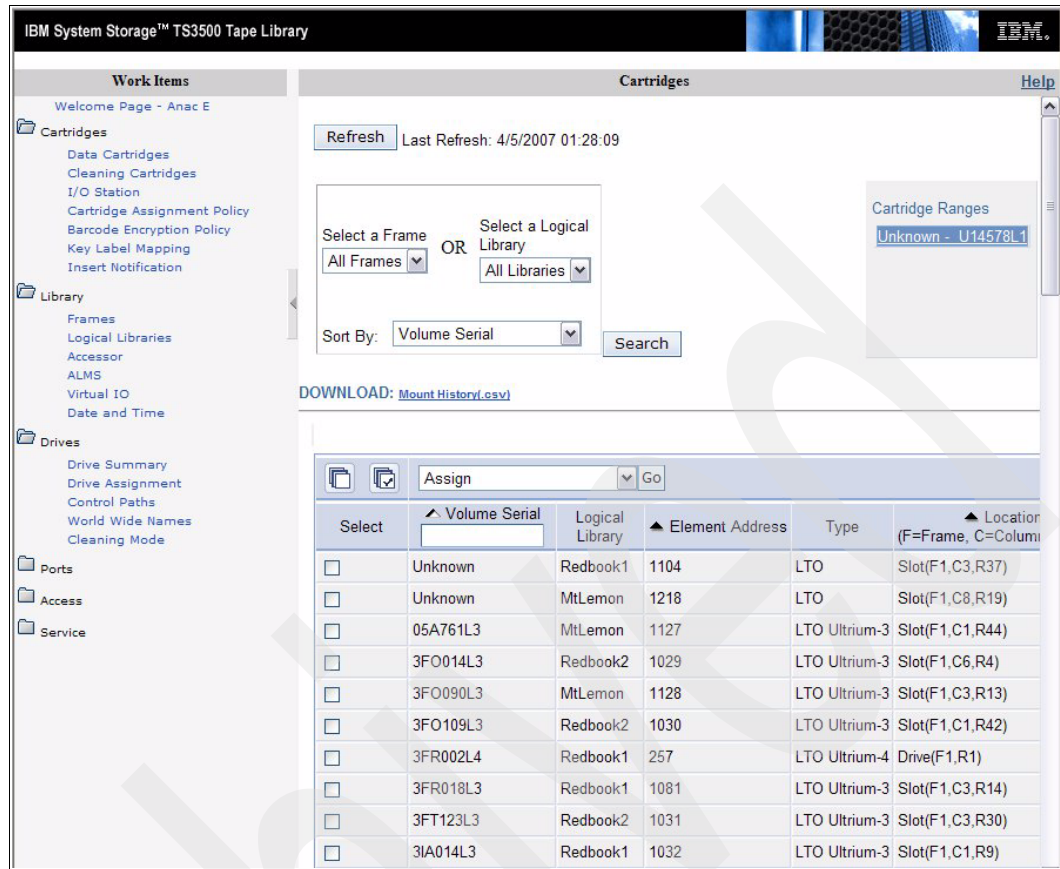

Figure 2-56 Cartridge list
3. In Figure 2-56, the Data Cartridges menu shows that the cartridge has moved to the new library. The cartridges has been given new element addresses according to the sequence of the new library, however, the cartridges remains in the same physical slots as before.